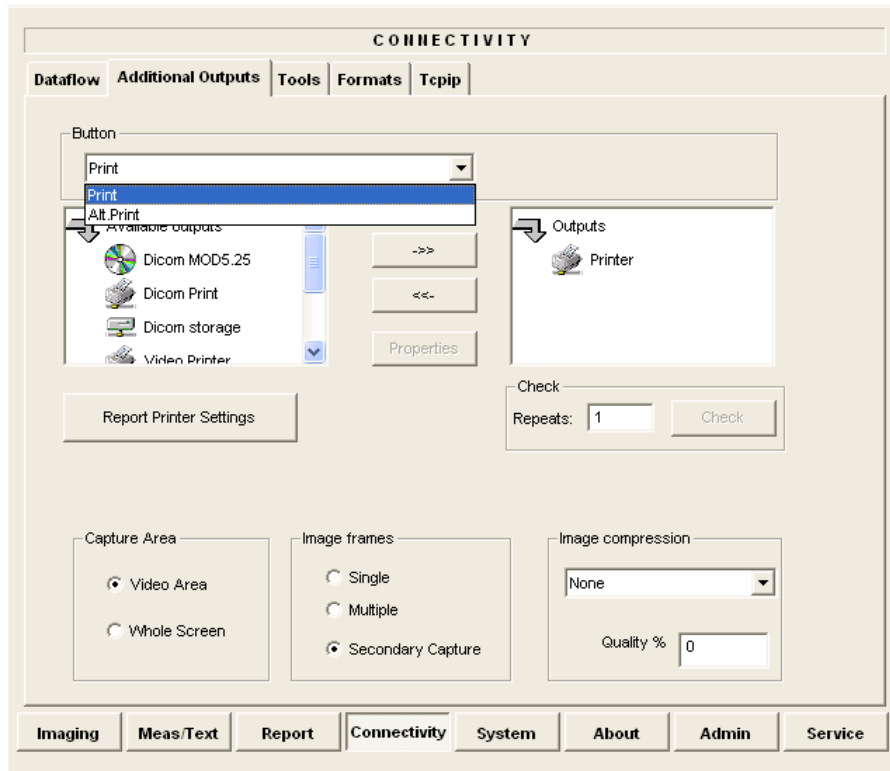

Figure 3-16 Configuring Control Panel Hot Keys for Printing
- 4.) From the Button drop-down menu (see Figure 3-16), select to configure either the **Print** button or **Alt+Print** to activate a variety of outputs.